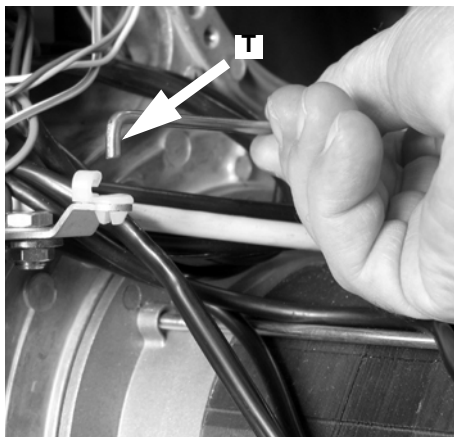

Fig. 27
- Remove the rod T from its housing as shown in Fig. 27.
- Refit the rod T (Fig. 27).